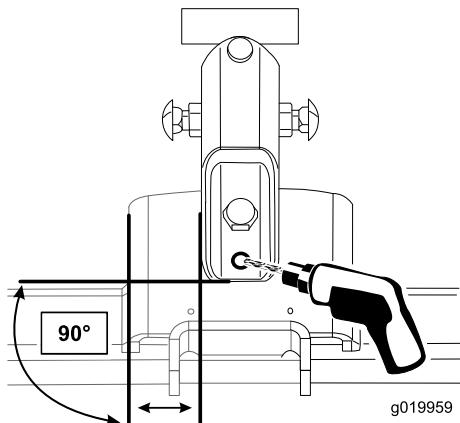

Figure 6
4. Drill though the second hole on the pivot bracket assembly into the machine plate (Figure 6).